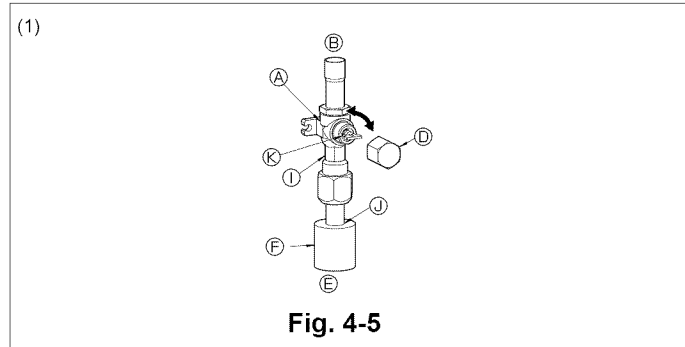
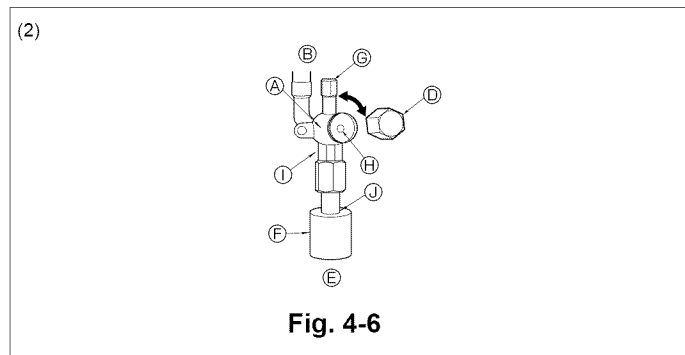

Fig. 4-5
Fig. 4-6
- (1) Gas side (Fig. 4-5)
- ① Remove the cap, pull the handle toward you and rotate 1/4 turn in a counter-clockwise direction to open.
- ② Make sure that the stop valve is open completely, push in the handle and rotate the cap back to its original position.
- (2) Liquid side (Fig. 4-6)
- ① Remove the cap and turn the valve rod counterclockwise as far as it will go with the use of a 4 mm hexagonal wrench. Stop turning when it hits the stopper. (ø6.35, 1/4 inch: Approximately 4.5 revolutions) (ø9.52, 3/8 inch: Approximately 10 revolutions)
- (A) Valve
- (B) Unit side
- (C) Operation section
- (D) Cap
- (E) Local pipe side
- (F) Pipe cover
- (G) Service port
- (H) Wrench hole